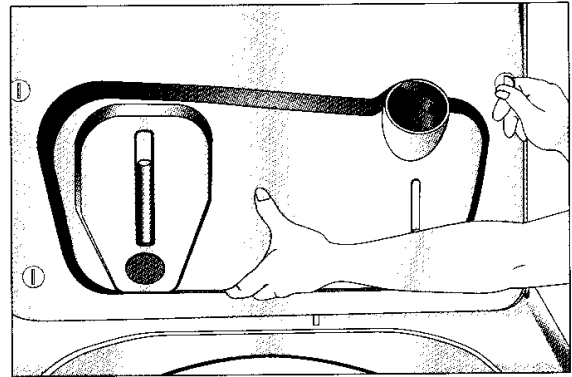

Figure 4
- 1) Support the bottom of the dispenser with one hand. Use a quarter and turn four slotted screws counter clockwise 1/4 turn (figure 4).